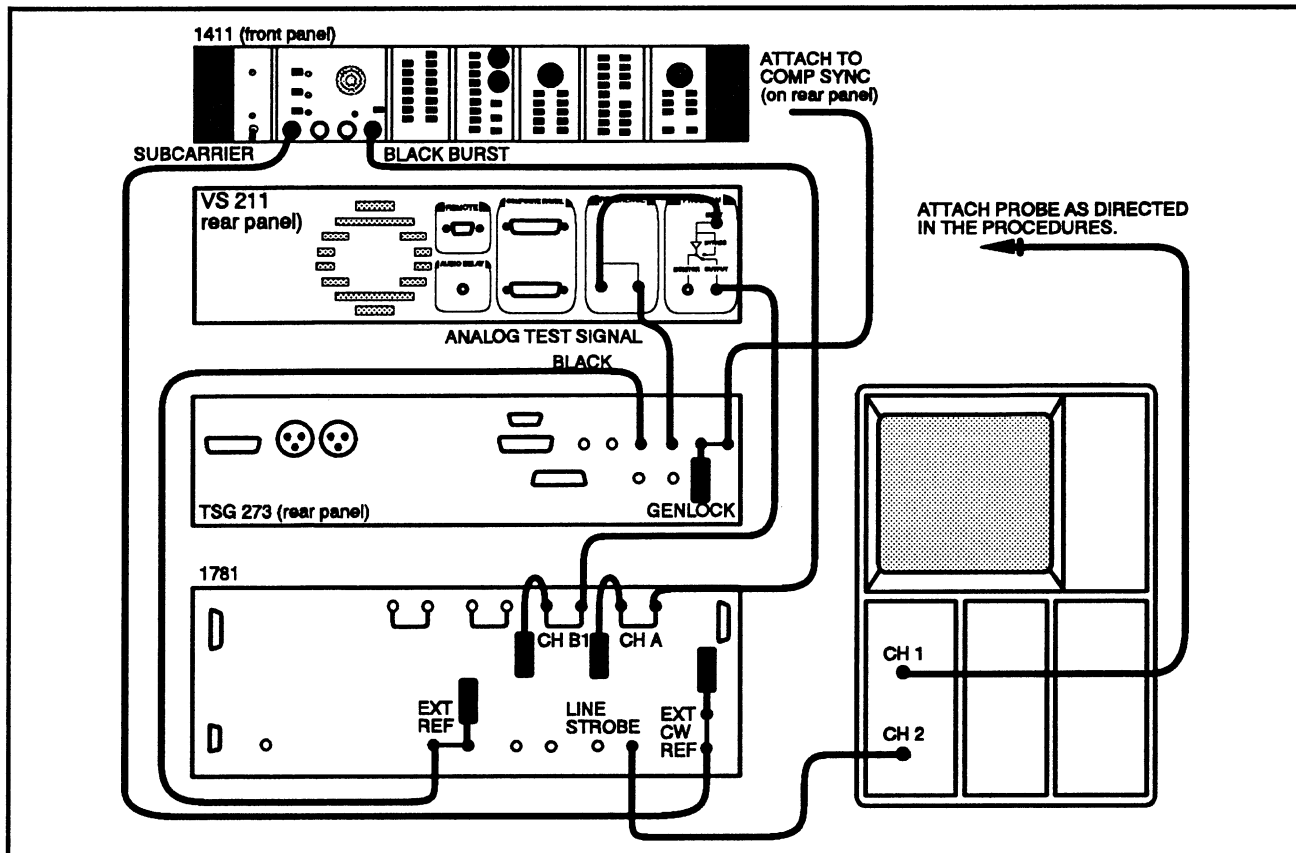

Fig. 4-14.
- a. Connect the test equipment as shown in Fig. 4-14.